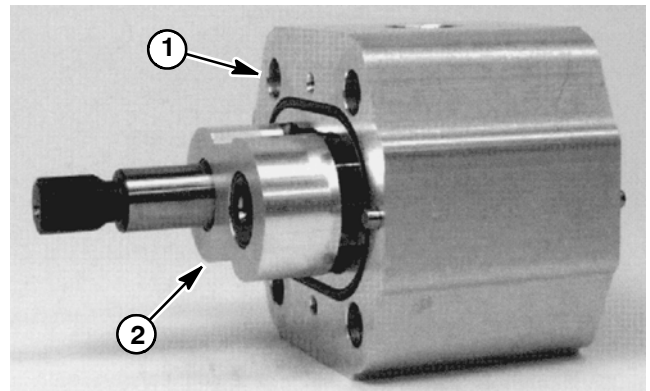

Figure 87
7. Place motor on its side and push on the rear bearing block to remove bearing block and gear set (Fig. 87).